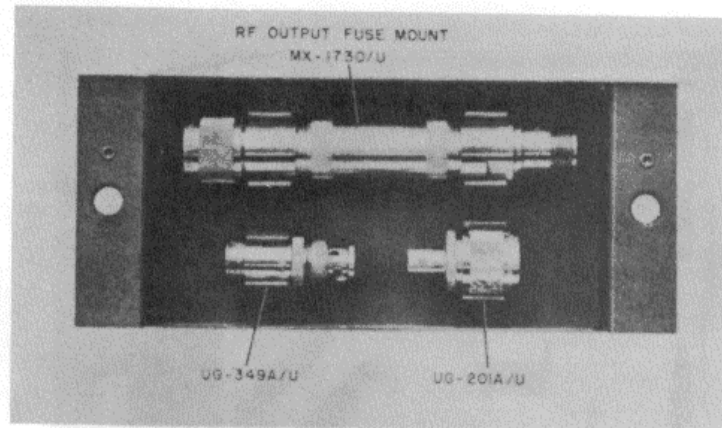

Figure 1-8. Accessory Cover
c. Connector Adapter UG-201A/U is a BNC male to Type N female adapter; it is included as an accessory for convenience in making cable connections to the signal generator. (See figure 1-8.)
d. Connector Adapter UG-349A/U, included for the same purpose, is a BNC female to Type N male adapter. (See figure 1-8.)
e. R-f Output Fuse Mount MX-1730/U. a special coaxial fuseholder for protection of the output attenuator, is included as an accessory for the TS-510/U and the TS-510A/U(\*\*) Signal Generators. This fuse protects the output attenuator from damage in the event that an external voltage is accidentally applied at the RF OUTPUT. The fuseholder connects to the output cable and is provided with 2 standard female Type N output connectors. A Type 8AG, 1/16-amp fuse is utilized. The fuseholder has an insertion loss of 0.05 db at 200 mc, 0.56 db at 300 mc, and 0.65 db at 400 mc; its VSWR is not greater than 1.35 when connected to a 50-ohm resistive load. (See figure 1-8.) A similar fuseholder, 2152, is included as an accessory for the TS-510A/U(\*) Signal Generator.